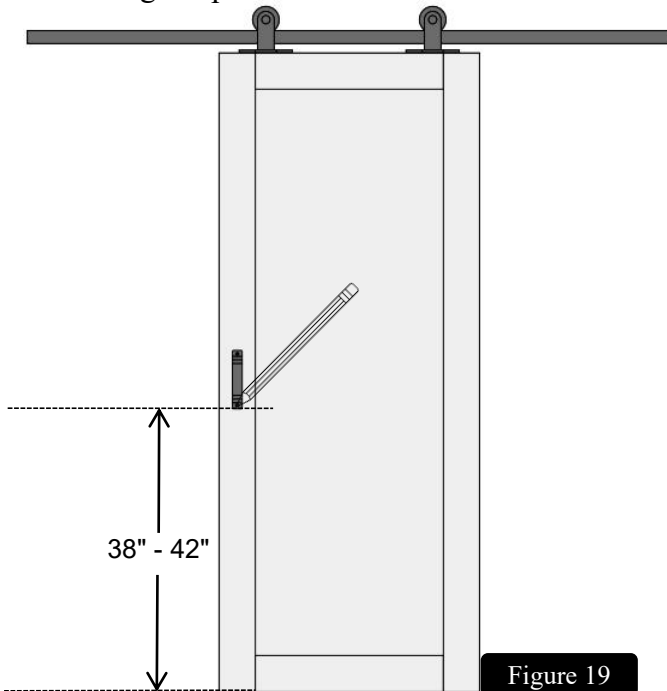

Figure 19
- **Step 2:** Install the pull at your desired height between 38" - 42" (recommended range). Measure up from the floor to your desired height and mark the spot with a pencil. (Figure 19)